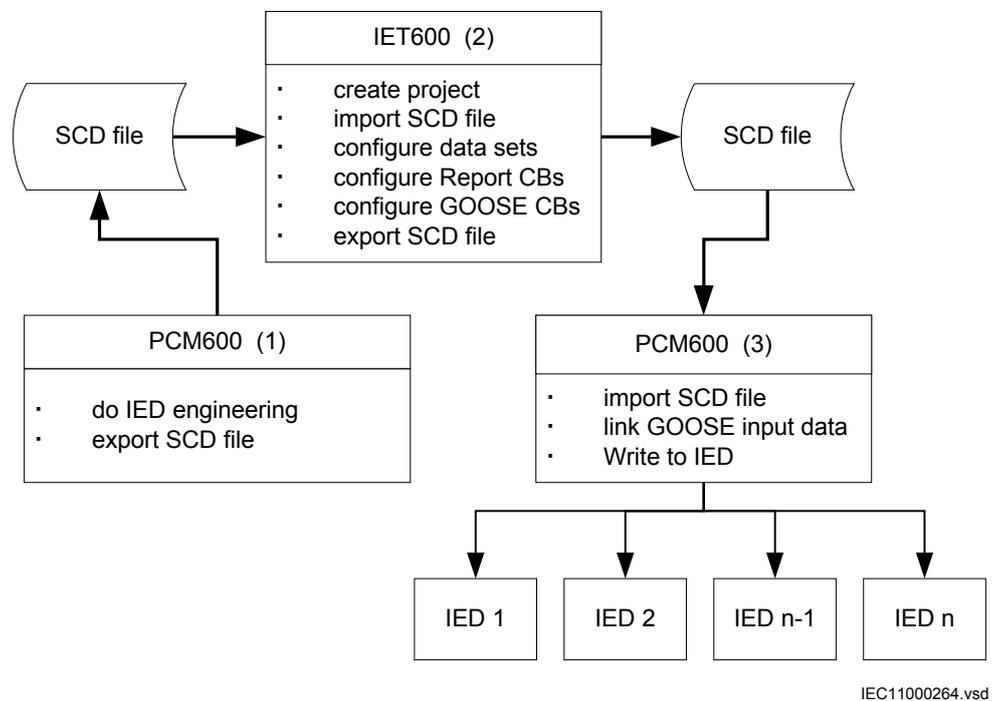

Figure 54: IEC 61850: Signal engineering procedure flow
A short form of a typical sequence is shown in Figure 54 when a complete station is exported as a SCD file.
1. Export SCL files from PCM600. In the scenario in Figure 54 it is a SCD file. Other SCL file types are possible to export.
3. Import SCL files to PCM600 project. In the scenario in Figure 54 it is the updated SCD file.